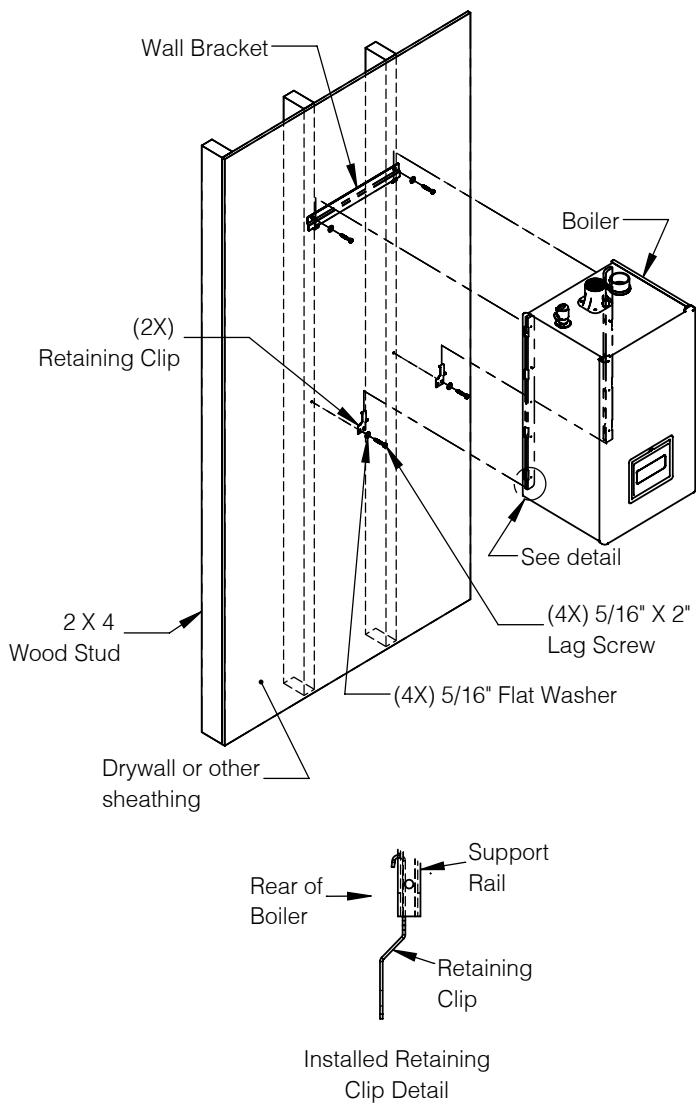

Figure 6-4: Mounting Boiler on Wall
4. Hang boiler on wall bracket. See Figure 6-4.